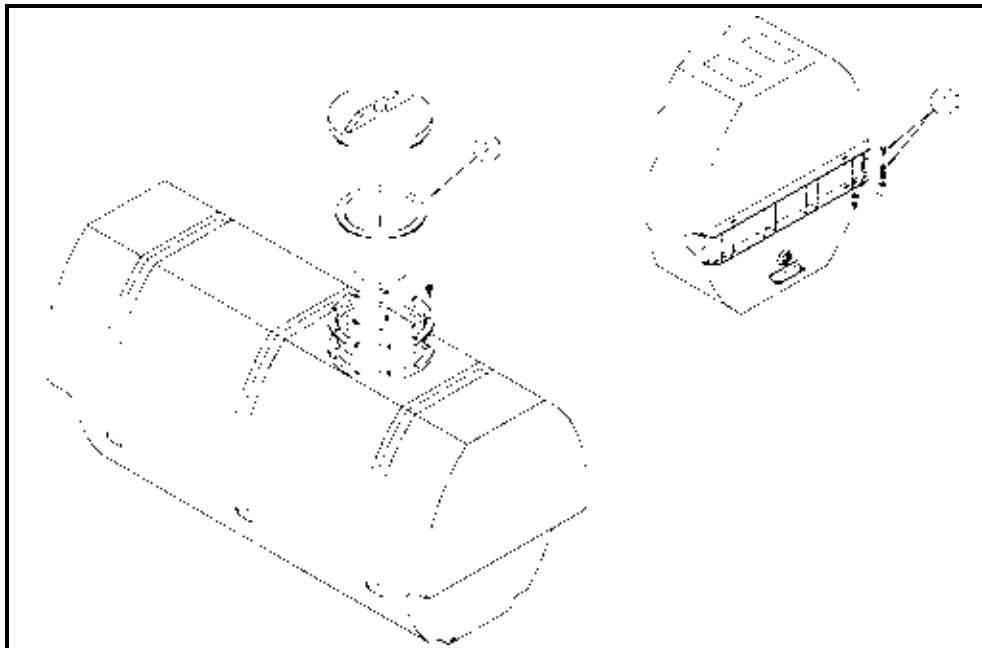

FIG 5.76
The model 284 comes equipped with either two 400-gallon polyethylene or stainless steel solution tanks (fig. 5.74) equipped with mechanical agitation (see pages 65-66). The stainless steel tanks are held in place with mounting bolts and springs. Tighten the bolts only enough to compress the springs (fig. 5.76, Item 1).
The strainer on top of each tank (fig. 5.76, item 2) should always be in place to catch debris or objects from falling into the tank when the tank lid is removed. Both solution tanks come equipped with sight gauges showing solution level (fig. 5.75).